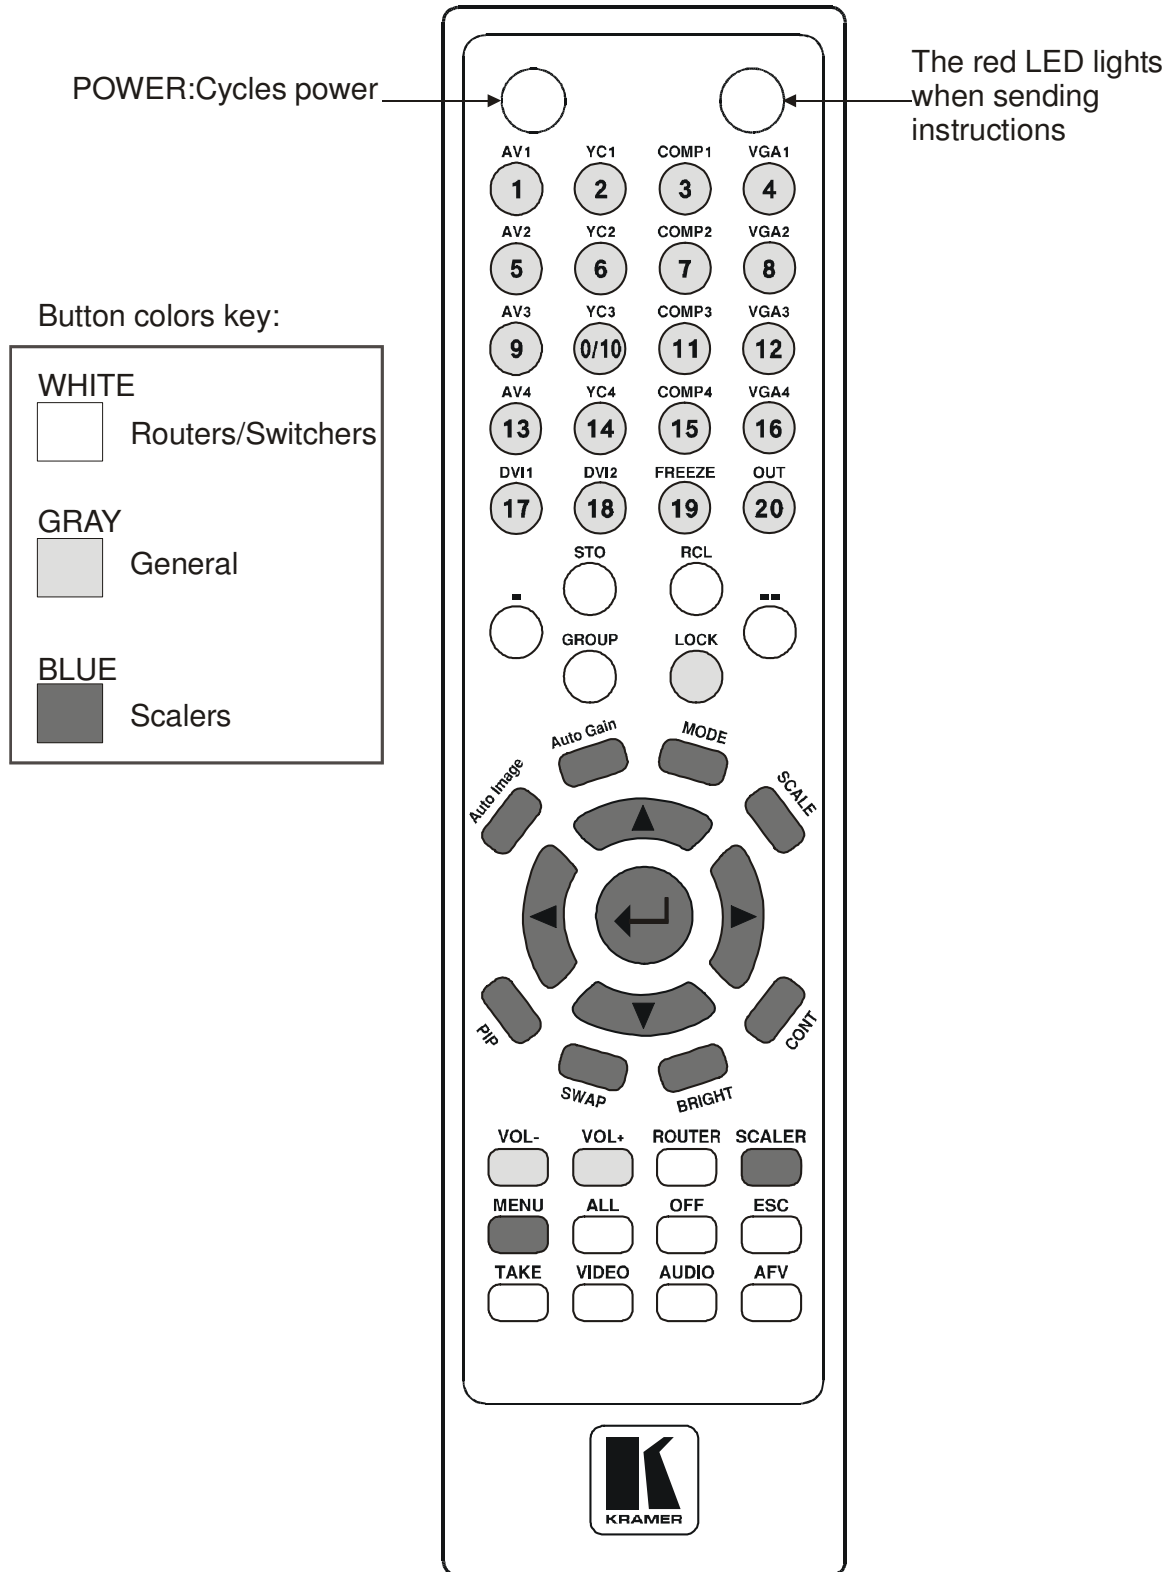

Figure 1: RC-IR2 Remote Control Transmitter
- Is a hand held infrared remote control transmitter¹ that includes the protocols of all Kramer devices and is programmable to control any Kramer machine (see Figure 1)
Figure 1 and Table 1 define the **RC-IR2** remote control transmitter: